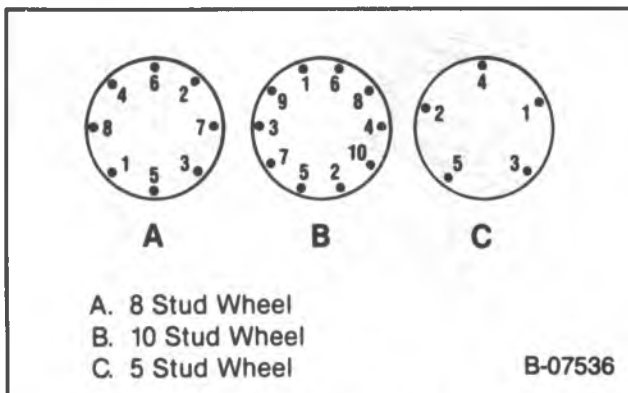

Figure 8 — Wheel Tightening Sequence
Install or Connect (Figure 8)
- Tighten evenly and alternately to avoid excessive runout (figure 8).